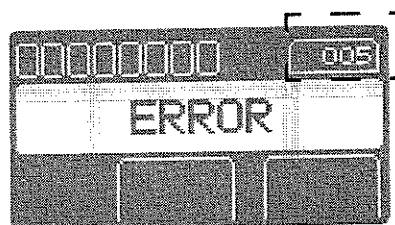

Figure 5 Error Message and Code Location
- If any ERROR messages appear during these tests, note the error code that appears in the counter area (see figure 5) and see the *Troubleshooting Guide* section for assistance.